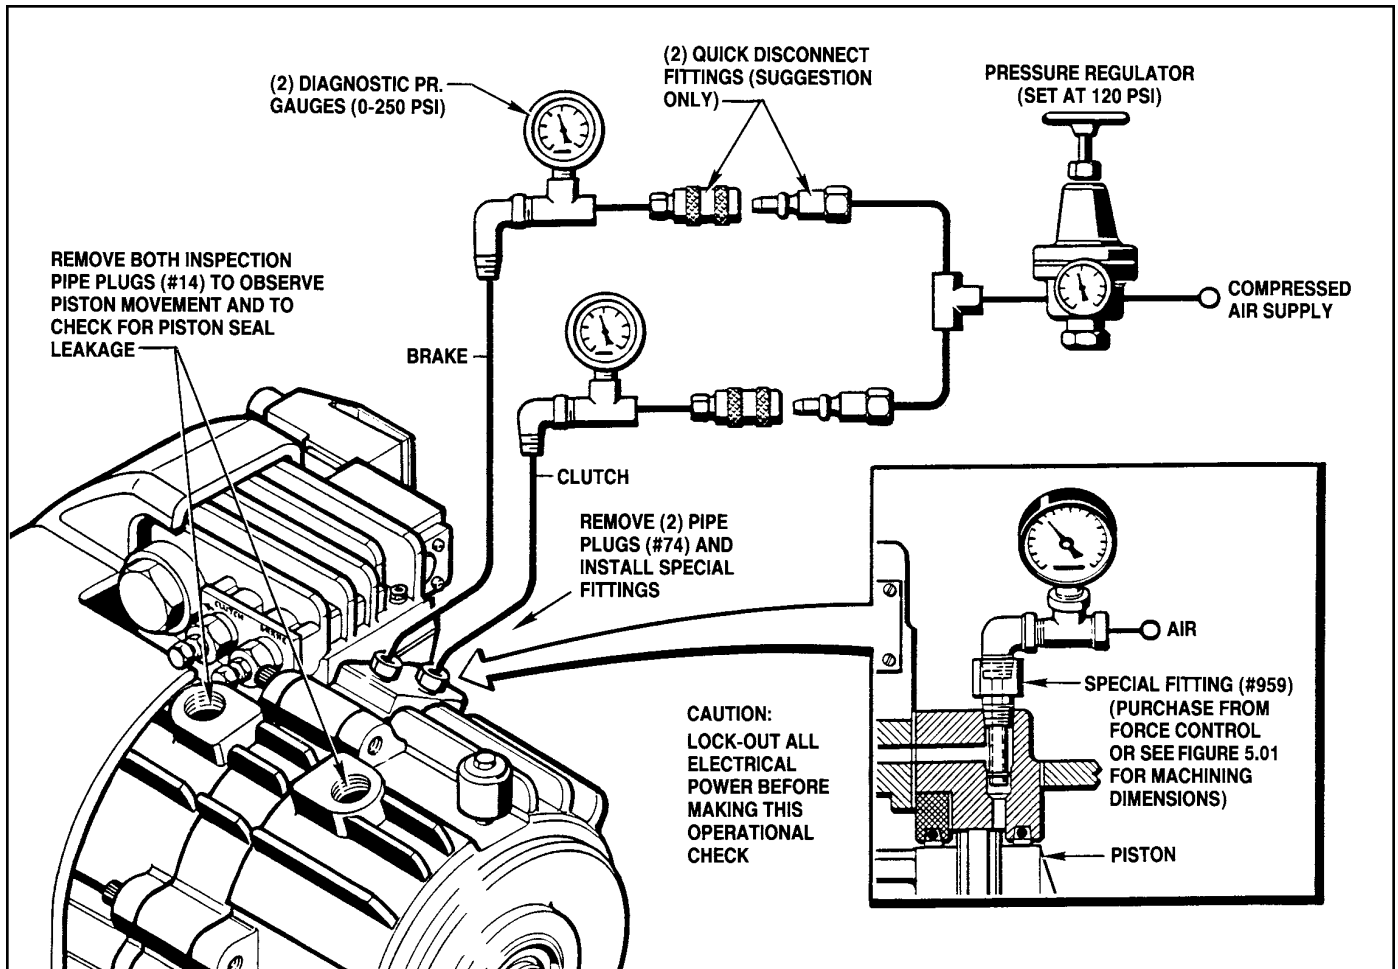

Figure 5.02 - Pneumatic Set-Up For Operations Check
1. Remove the (2) 1/8" NPT Pipe Plugs (#74) from the Piston Housing. After lubricating the O-Ring (#961) install the two Special Air Connection Fittings (#959) into the Piston Housing.
2. Install the 120 PSI air supply to the unit as shown in Figure 5.02. (Example only)